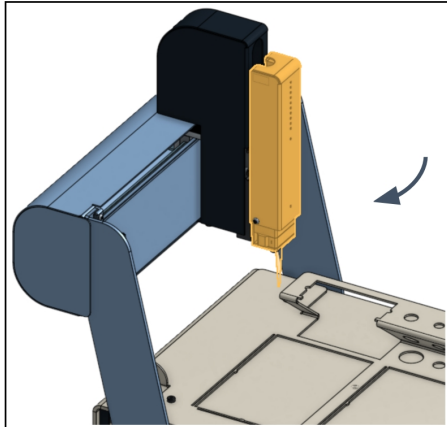

Figure 3.6
7. Place the robot head back on the instrument magnetic support (Figure 3-6) and click **Done**.